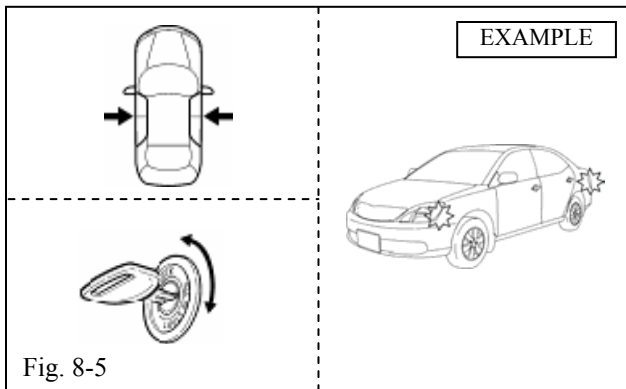

Fig. 8-5
- (f) Close all doors. Insert the key into the ignition switch and turn it from LOCK to ON 5 times (ending at ON). (Fig. 8-5)
- (g) The hazard lights flash once. (Fig. 8-5)